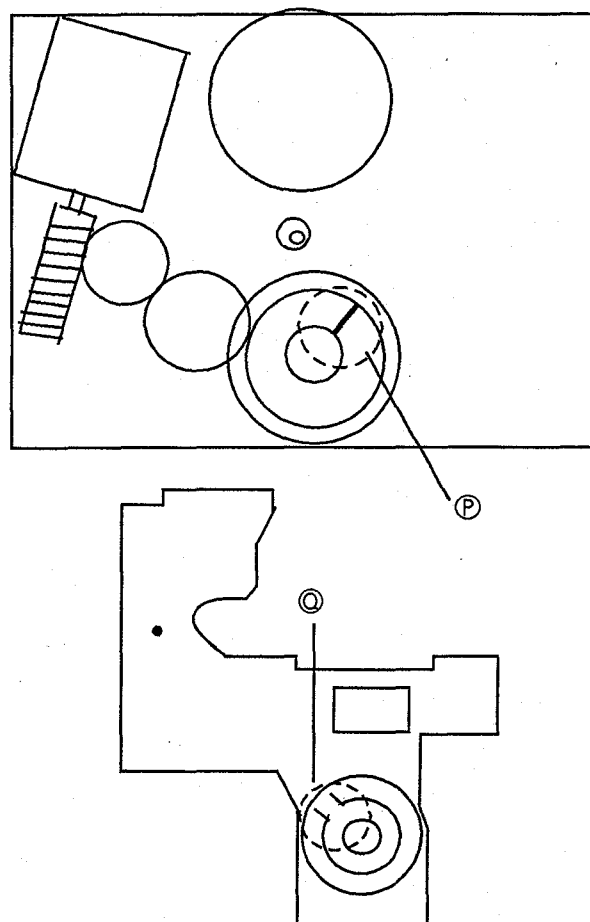

Figure 11 Gear position
(When installing the cam switch PCB, assemble the PCB so that part ② meets part ③. Figure 11)